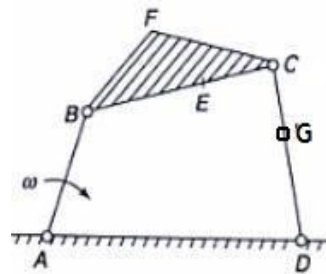

Fig.6
7. A four bar chain ABCD as shown in figure 6. In which the link AD is fixed, the length of the links $AB = 65\text{mm}$, $BC = 75\text{mm}$, $CD = 88\text{mm}$, $AD = 120\text{mm}$ $BF = 45\text{mm}$ $CF = 35\text{mm}$ and If the crank AB rotates at 18 rad/sec in clockwise direction. Draw the configuration and velocity diagram when angle $DAB = 65^\circ$ and the point E in the link BC at a distance of 25mm from C and the point G in the link CD at a distance of 28mm. Find the absolute velocity of point F, E and G and angular velocity of links BC and CD.